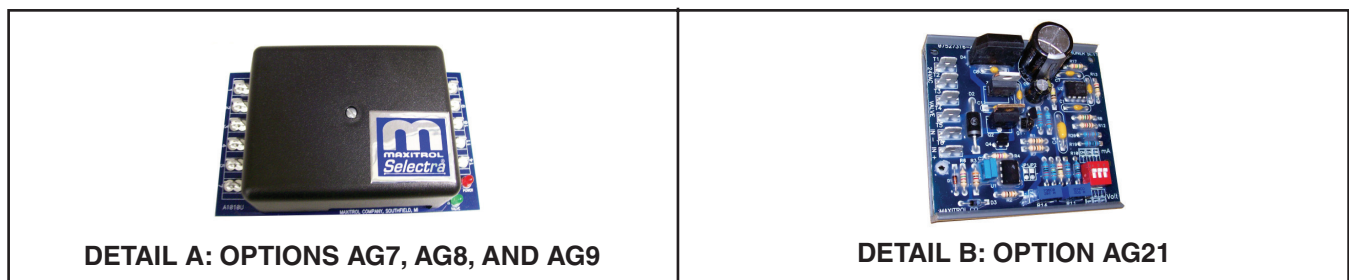

Figure 31. Electronic Modulation Options
- Electronic modulation between 50% and 100% firing rate (see Figure 31, DETAIL A).
- Computer-controlled electronic modulation between 50% and 100% firing rate (see Figure 31, DETAIL B).